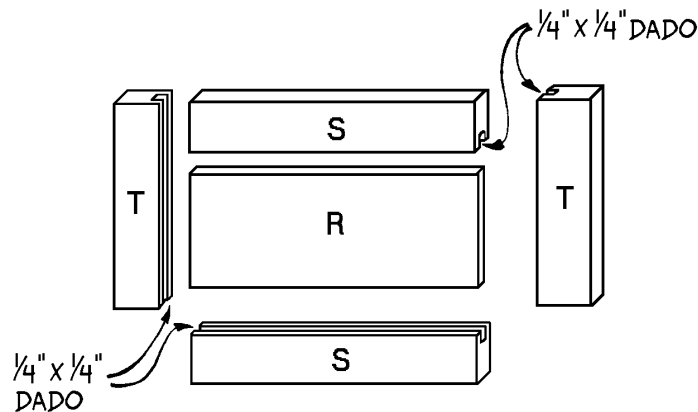

Figure 6
The drawer front is nothing more than a center panel of 1/4" plywood that is inserted into a 1 x 2 frame, and trimmed with decorative molding (*Figure 6*). It's not difficult to do, but it requires a certain amount of precision when cutting to obtain a professional-looking finished product. Don't hurry the process, and be meticulous in your work.
1. Cut one 10-1/2" x 2" drawer panel (R) from 1/4" thick plywood.
2. Cut two drawer top/bottom frame pieces (S) from 1 x 2 pine, each 10" long.
3. Cut two drawer side frame pieces (T) from 1 x 2 pine, each 5 inches long.
4. Cut a 1/4" x 1/4" dado along the inside edges of each of the frame pieces (S and T) to accommodate the drawer panel (R). A cutting diagram is shown in *Figure 6*.
5. Place the drawer panel (R) into the dados cut into the frame pieces (S and T). Glue and clamp, then nail the frame pieces together. Use two 3-penny finishing nails on each end of the overlapping boards.